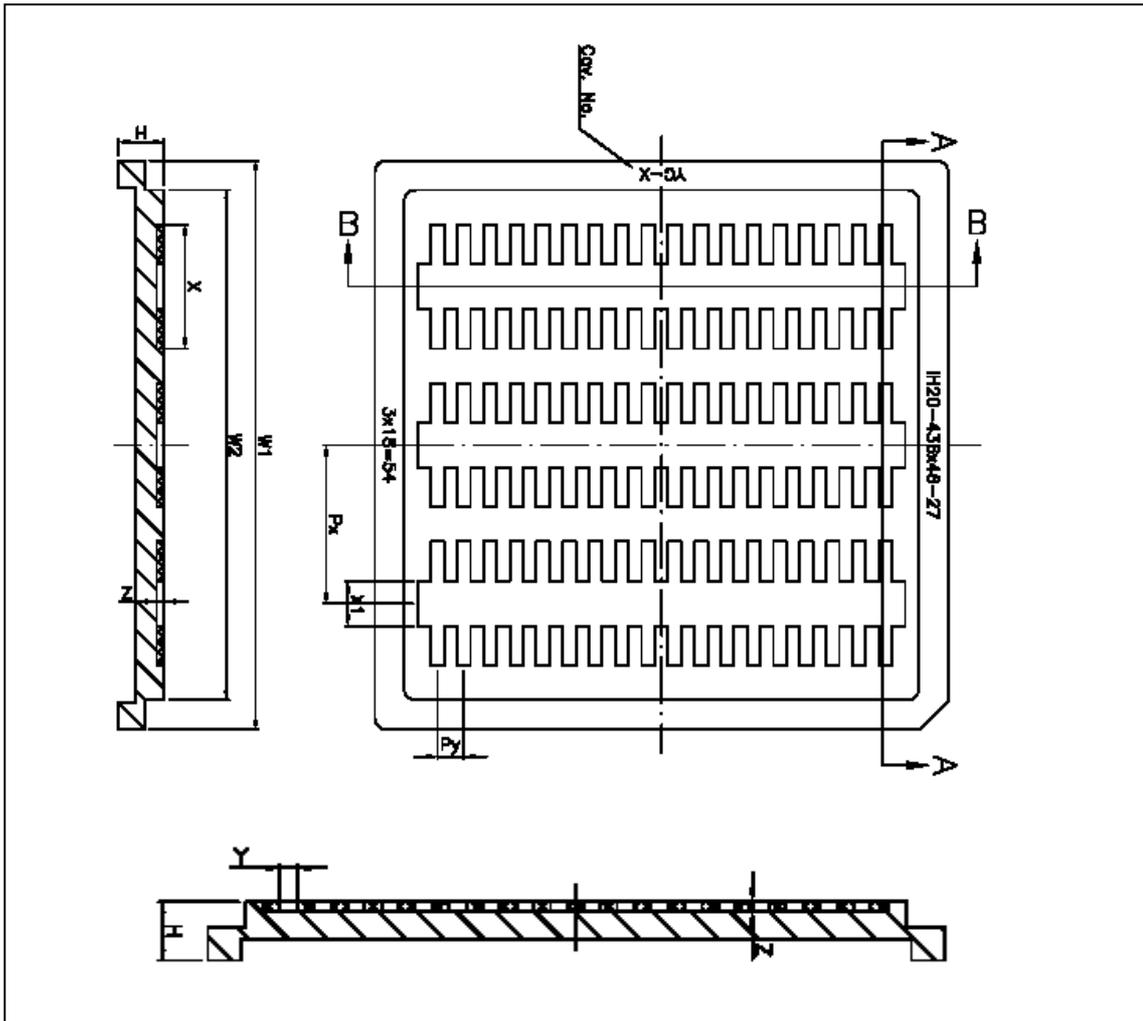

**Figure 14 - Definition of the data transfer condition**
1. The data bit, which is transmitted during each SCK pulse, must be kept at a stable state within the “high” period of the clock pulse. Please refer to the Figure 14 for graphical representations. Except in start or stop conditions, the data line can be switched only when the SCK is low.